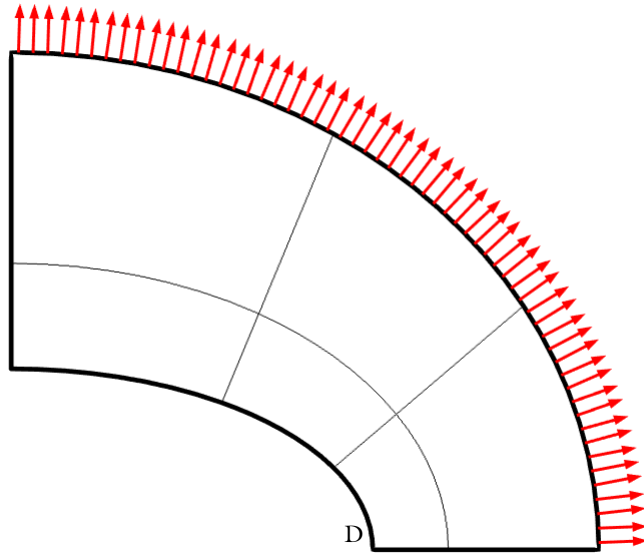

Figure 1: The geometry and load. Only the quarter which is analyzed is shown.
Due to symmetry in load and in geometry, the analysis only includes a quarter of the geometry as shown in Figure 1.
- The knowledge about where a stress concentration is expected suggests that you should use a mesh such that more elements are present in the region around point D to get optimal accuracy, see Figure 1.
The normal stress σ_y at the elliptic hole is evaluated at the point D located at $X = 2$, $Y = 0$ (see Figure 1). The target value according to Ref. 1 is 92.7 MPa. The value is based on an analytical result. The COMSOL Multiphysics results for the “coarse” and “fine” meshes are given in Table 1.